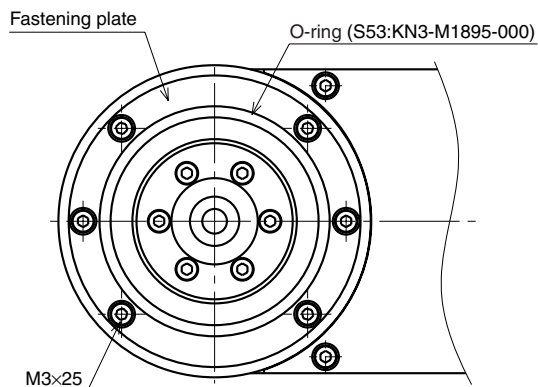
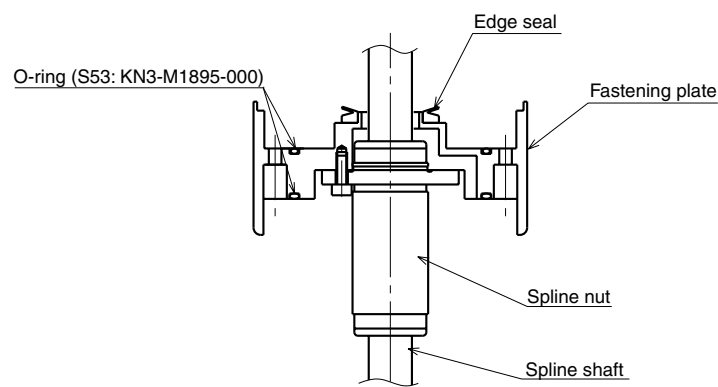

Fig. 5-13
Fig. 5-17
- 8) Remove the button bolts (M3×20L, 6 pieces) on the underside of the Y-axis arm and remove the plate fastening the spline and the harmonic drive. (See Fig. 5-13.)
- 21) Fit a new O-ring into the O-ring groove on the fastening plate and also replace the edge seal on the fastening plate with new one. (See Fig. 5-17.) Next, secure the fastening plate to the harmonic drive with the button bolts (M3×20L, 6 pieces) you removed earlier. (See Fig. 5-13.) At this point, be careful to keep the spline shaft from coming off the spline nut.